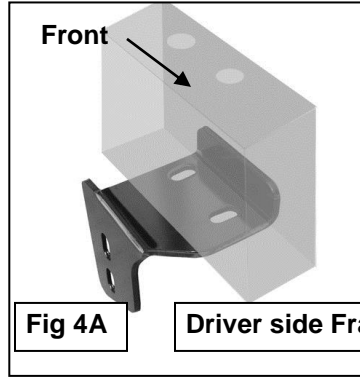

Fig 4A
- Remove the factory skip plate if equipped. Starting behind the front bumper on the driver side, locate the section of rectangular frame channel attached to the back of the bumper, **(Figure 1)**. Insert (2) 10mm x 120mm Hex Bolts with (2) 10mm x 30mm Large Flat Washers into and down through the (2) vertical holes in the top of the bumper bracket, **(Figures 2 & 3)**. Select the driver side Frame Mounting Bracket. Line up the (2) slots in the Bracket with the (2) 10mm Hex Bolts. Secure the Bracket to the bottom of the bumper bracket with (2) 10mm x 30mm Large Flat Washers and (2) 10mm Nylon Lock Nuts, **(Figures 4A & 4B)**. Do not tighten hardware.